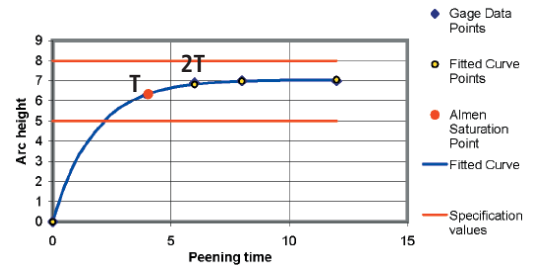

Figure 2. The Curve Solver tabulates the saturation curve. It's free from www.shotpeener.com.
Verification of the requested intensity requires the establishment of an intensity saturation curve (graphical plot of arc height versus peening time or other time-based parameter). The saturation curve is plotted with a minimum of four Almen strip arc height readings that were peened with fixed machine settings. Plotting arc heights manually is laborious and often inaccurate. Fortunately, it's also outdated. Illustrated in Figure 2 is the Curve Solver program developed by Dr. David Kirk. Enter the arc height readings from an Almen gage for at least four peened Almen strips into the program and it will compute the saturation point intensity. Figure 2 shows that doubling of the time (2T) from the initial peening time (T) resulted in less than a 10% increase in Almen arc height. This is called the "10% rule" and it means that the process reaches saturation at "T." Saturation establishes the actual intensity of the shot
By far, the concepts of saturation time and coverage cause the most confusion for new and experienced shot peening personnel. First, a definition of coverage: Coverage is the measure of the original surface area that has been obliterated by shot peening dents. If the goal is "100% coverage", the length of machine cycle time to achieve 100% coverage will differ based on the hardness of the material to be peened. Looking at Figure 2, it's easy to see why people get confused about the proper machine cycle time. According to this chart, the saturation point for the arc height (intensity) was achieved at around 4.8 minutes of peening time. Do not dwell on this number. Peening time is not the machine cycle time, it's only a graphical tool to establish intensity. Do NOT use it for determining machine cycle time for full coverage.